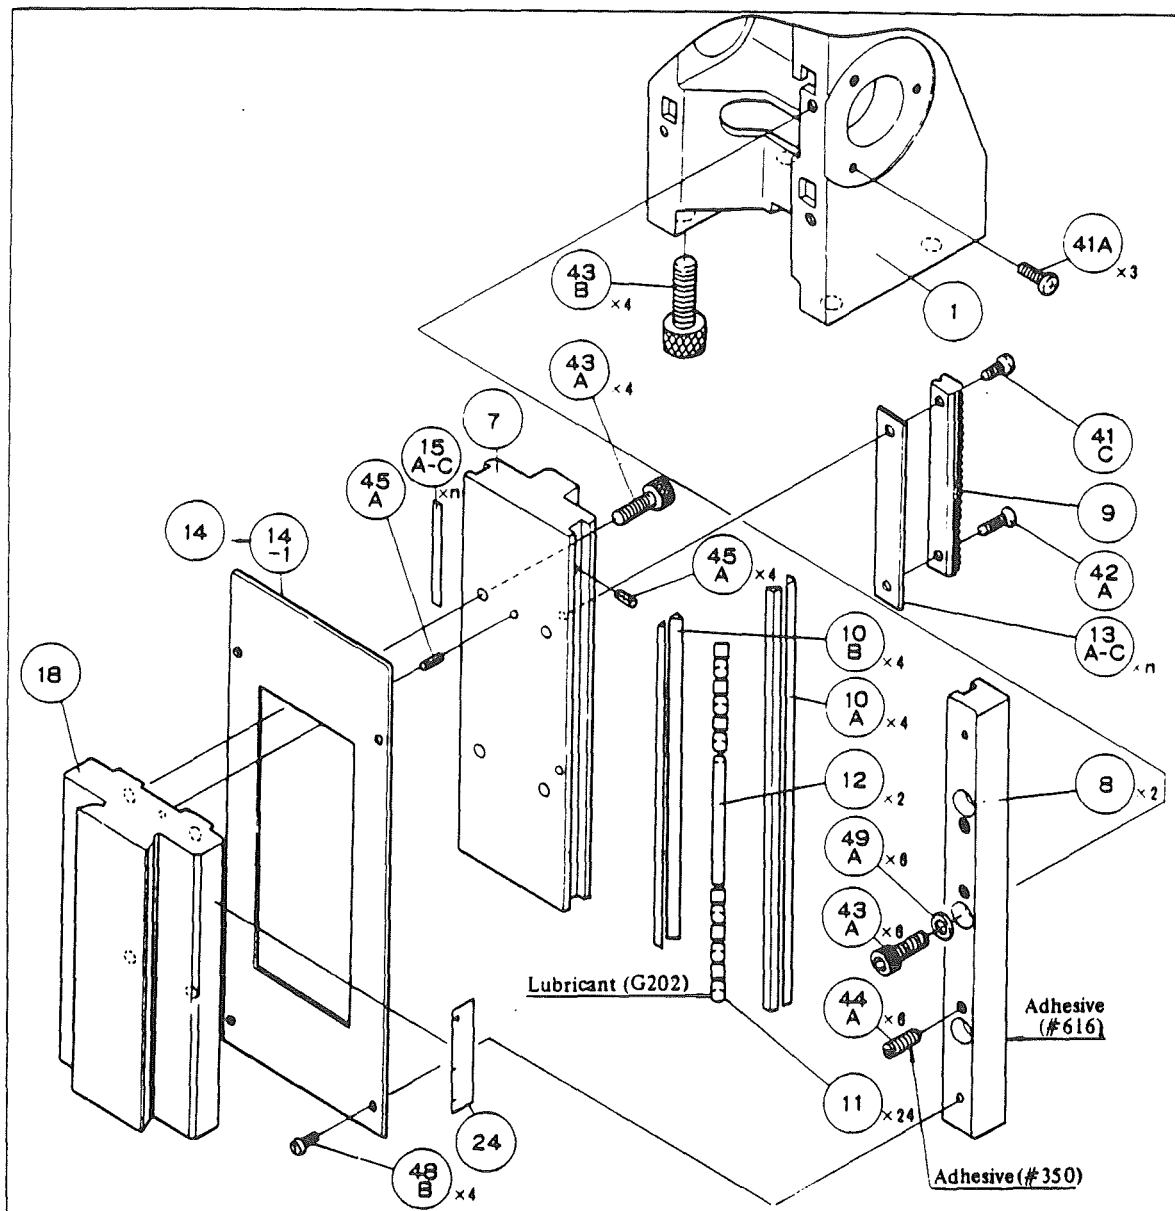
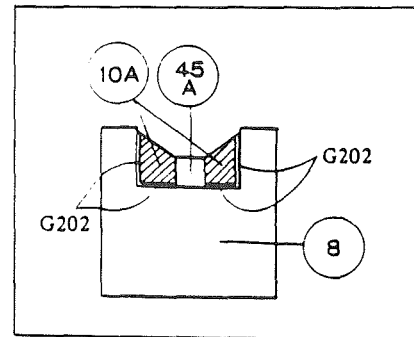

Fig. 29
Fig. 40
- 1) Releasing HS set screws (48A) x4 (LABOPHOT: (47A) x4), take off rear cover (2).
- 2) Releasing HS set screws (43A) x4, take off dovetail (18) (LABOPHOT: Screw (235A) and dovetail (201)) (Fig. 29).
- 3) Releasing HS screws (43B) x4 (LABOPHOT: (47B) x4), take off cover plate (14). (Fig. 29).
- 4) After removing bottom plate (402) from the base, and releasing (43B) x4, take off arm (1) from base body (401). (Fig. 29).
- 5) Releasing screws (41C) and (42A) (LABOPHOT: (41A) and (42A)), draw out rack (9) together with washers (13A) ~ (13C) toward the base. (Fig. 29).
- 1) Clean and dry the parts to be oiled or cemented as shown in Fig. 29, 30, and then apply the specified lubricant and adhesive.
- 2) If in Disassembly Procedure 7 (P. 22) the lefthand race (8) on the fiducial side has been dismantled for an unavoidable reason, use the right one as fiducial (Assuming that both the right and left races have not been dismantled).
- i) Fix (104) x 4 to the guide rails (10A) attaching surfaces of (8), using lubricant G202. (Fig. 40).
- ii) Attach (10B) x 4 to both the guide rail (10B) attaching surfaces of roller race (male) (7), using lubricant G202. (Fig. 40).